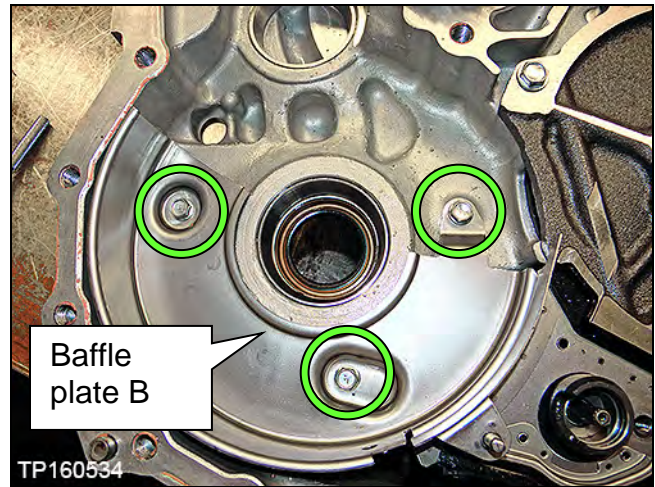

Figure 17C
11. Remove the three bolts from baffle plate B, and then remove baffle plate B (Figure 17C).